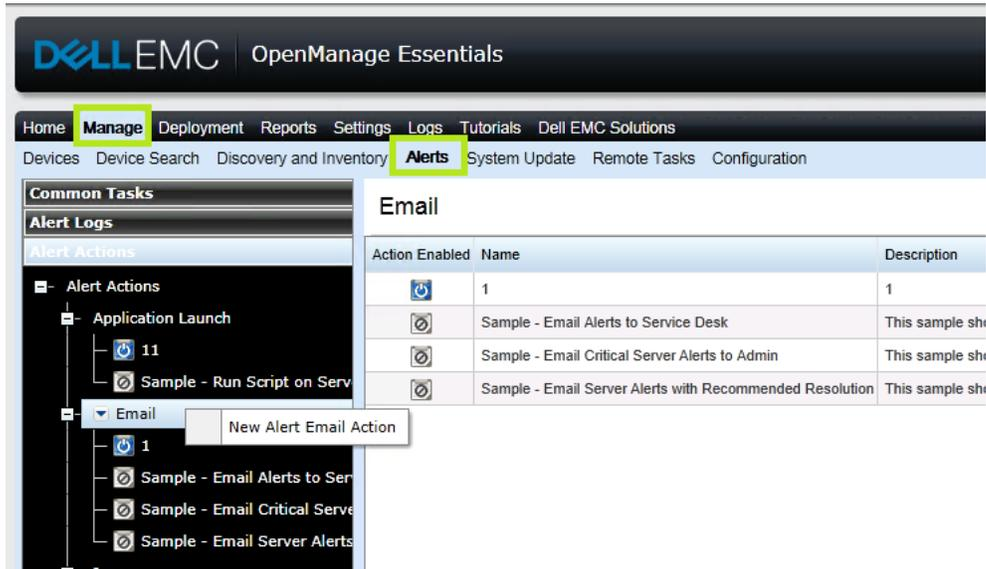

Figure 5 Creating A New Alert Email Action
1. Click **New Alert Email Action** as shown in Figure 5 and type a name.